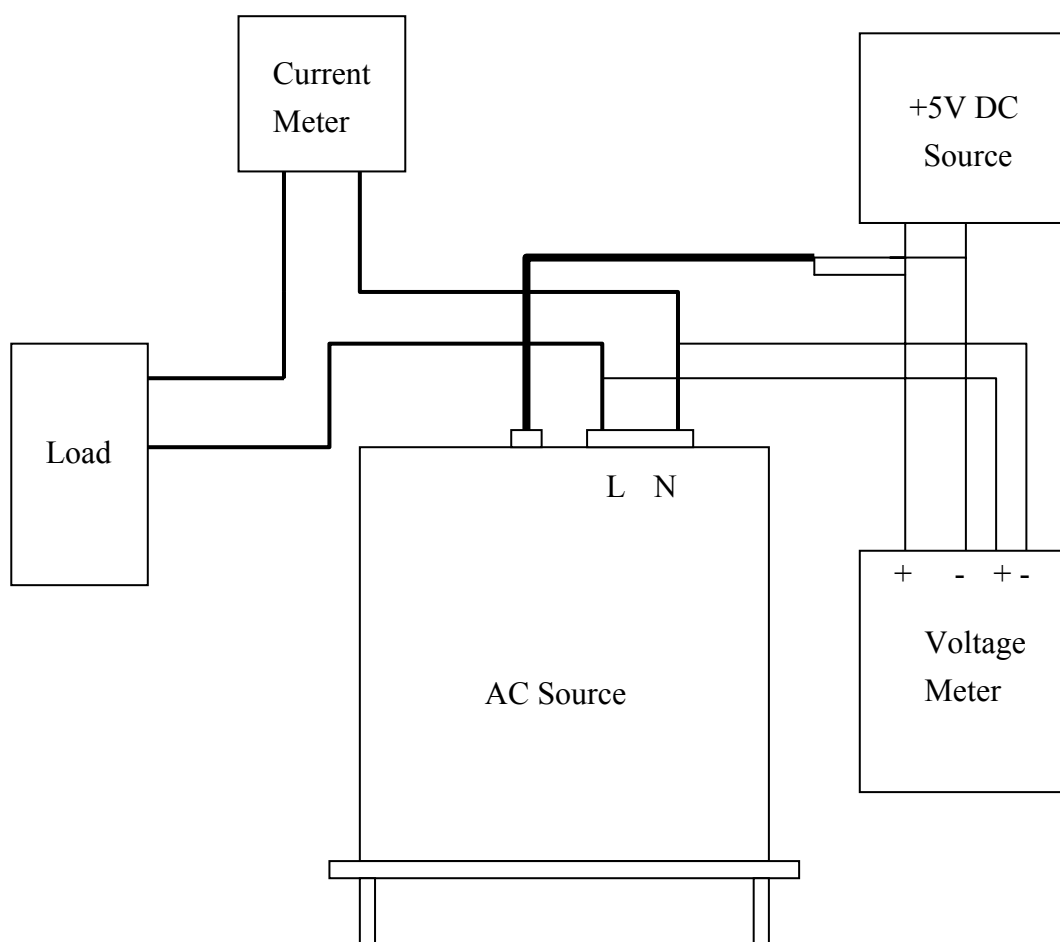

Figure 4.1.1
The AC Source built a simple way to calibrate the 3-phase output and measurement accuracy without opening cover. Users can do it for each phase just follow the procedures step by step. A voltage meter, current meter, suitable load and +5V DC Source are needed for while calibration procedure. Connections for these instruments please refer to Figure 4.1.1. There are three items need to calibrate. But it is not necessary to calibrate all at once. User can just choose one item if needs.
1. The Vdc offset may be positive or negative. The positive of DVM connect to the line of AC source output, and the negative of DVM connect to the Neutral of AC source output. See Fig. 4.1.1.